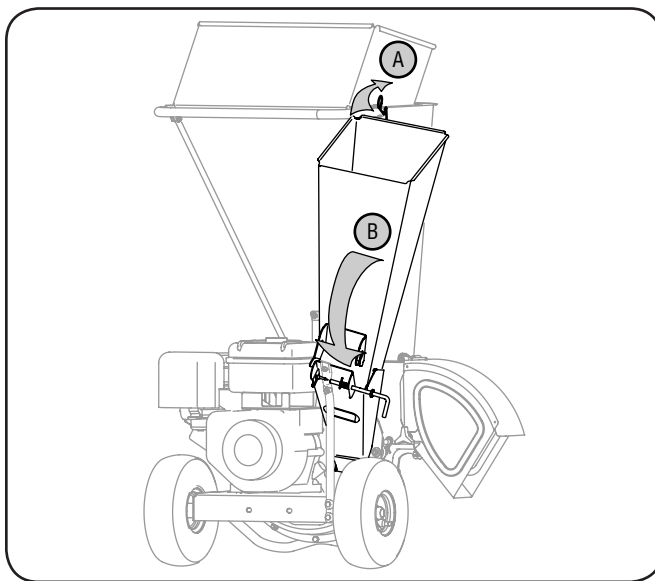

Figure 3-1
2. Gently pivot the chipper chute down until it clicks into the lock rod. See Figure 3-1.